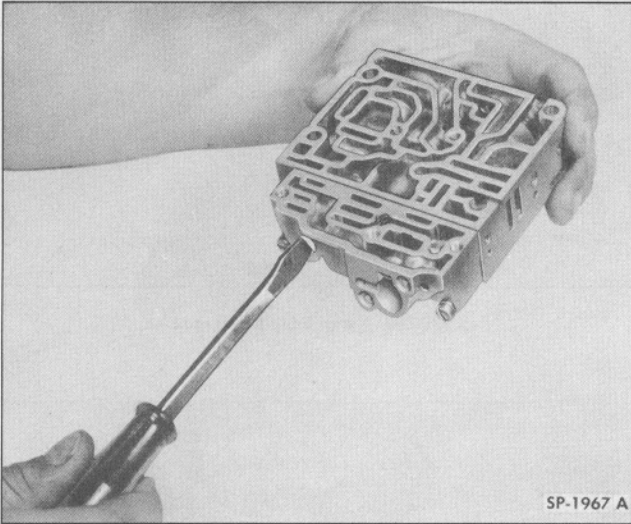

Fig. 36—Removing Front Valve Body
7. Remove the three screws attaching the front valve body assembly to the inner valve body assembly and remove the front valve body assembly and separator plate (Fig. 36).